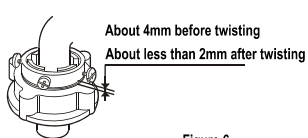

Figure 6
5. Install the drain outlet protecting cover to the other side, as indicated in Figure 6
After installation, the threading is 2mm above the upper surface of the nut. See to figure 6.